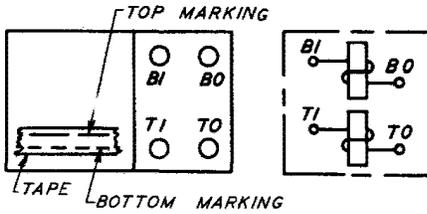

Fig. 107 - Winding Terminal Arrangement of KS-3106 (single pen) and KS-3107 (double pen) Foote-Pierson Pen Registers
4.14 KS-3106 and KS-3107 Pen Registers: The winding terminals of the KS-3106 single pen register are lettered I for inner and O for outer. The double pen registers per KS-3107 are numbered and lettered as shown in Fig. 107. The B binding posts are associated with the coils which control the bottom tape marking and the T binding posts are associated with the coils which control the top tape marking as shown in Fig. 107. The I represents the binding posts nearest the mechanism and the O represents the binding posts farthest from the mechanism.